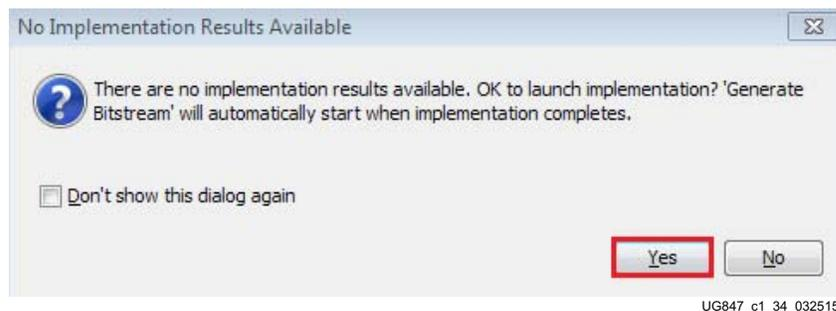

Figure 1-34: Generate Bitstream
- In the Flow Navigator under Program and Debug, click **Generate Bitstream** (Figure 1-34). A window pops up asking if it is okay to launch implementation. Click **Yes**.